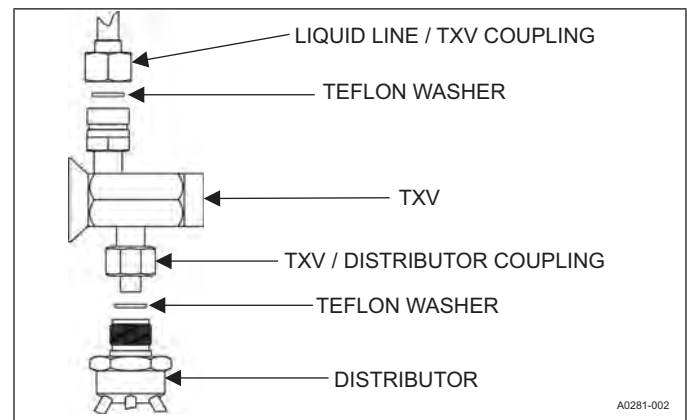

FIGURE 10: TXV Installation
4. Install the thermal expansion valve to the distributor assembly with supplied fittings. Ensure Teflon washer is seated in distributor. Hand tighten and turn an additional 1/4 turn to seal. Do not over-tighten fittings. See Figure 10.